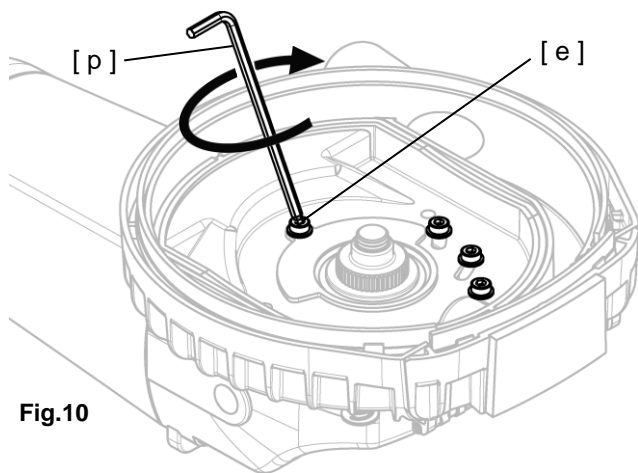

Fig.10
8. Tighten [e] Flange Bolt x 4pcs by [p] Hex Wrench. (Fig.10)